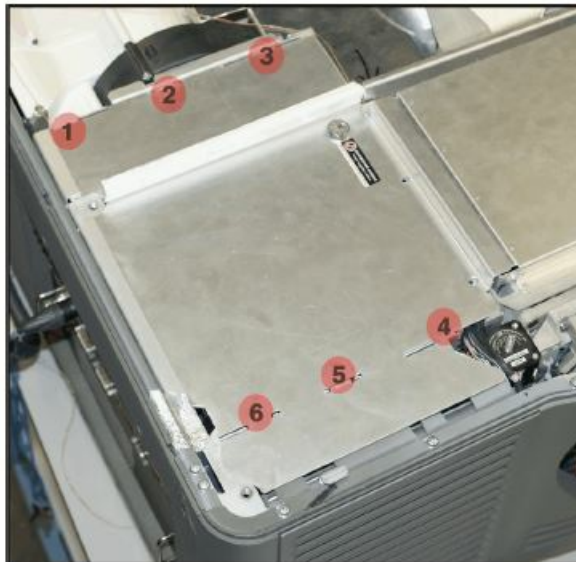

Figure 4 Remove High Security Cover
2. Remove the six screws securing the high security cover. (Figure 4) Unlock the high security access lock. Lift the lid and slide it out.